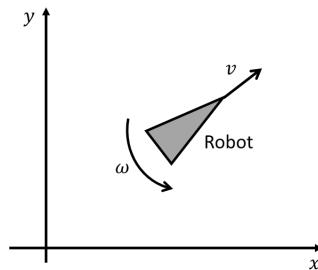

FIGURE 45 ROBOT VELOCITIES
- The type of robot describes the robot to be used as differential drive robot(1) or a holonomic robot (2). *Note, Puzzle-Bot is a differential drive robot.*
1. Robot Linear and Angular Velocities provide the linear v and angular ω velocities to the robot as seen in Figure 45. The velocities are then converted in the firmware to wheel velocities and a PID controller in each wheel, makes the robot reach its set point (PID control parameters for each wheel can be re-tuned as explained in the following section).